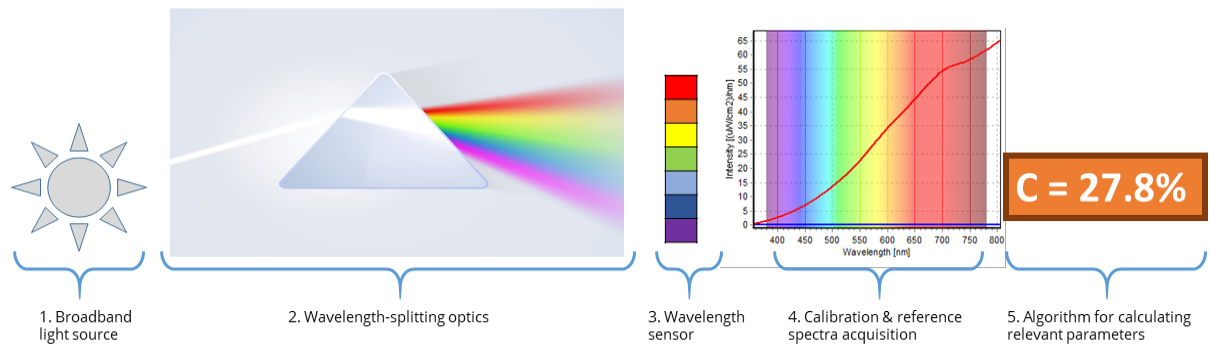

Figure 5. The main building blocks of a spectrometry setup.
As shown in Figure 5 above, there are five main parts:
- a. Dispersive optics (as shown in Figure 5), which separates the wavelengths spatially.